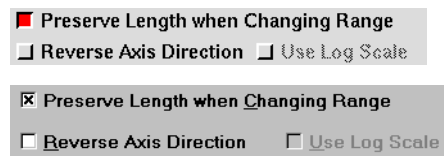

Figure 2-13. Check boxes in Motif (top) and Windows (bottom).
- Check boxes:** Check boxes are Yes/No or On/Off switches. Typically, a check box names some option. If the check box is selected, the option is in effect. If the check box is not selected, the option is not in effect. Figure 2-13 shows check boxes as they appear in Motif and Windows systems.
- For check boxes and option buttons, to select means to click on the desired option. A selected check box or option button is either filled or marked with an X, as shown in Figure 2-13, while an unselected check box or option button is empty.